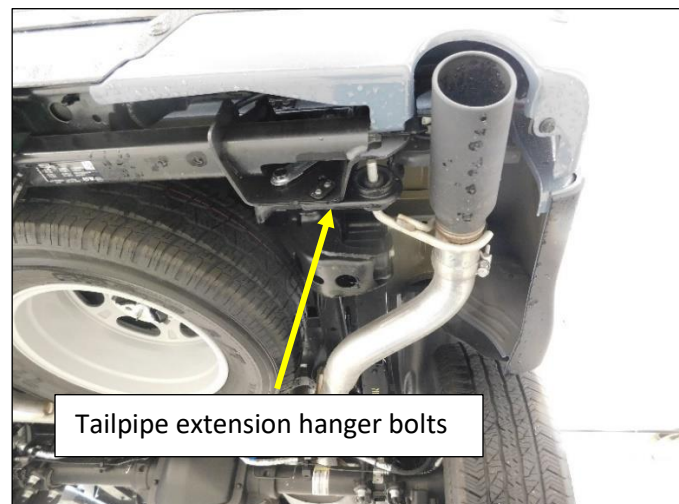

Figure 2
4. Remove the M10 nuts securing the tailpipe extension hanger to the rear frame structure (trailer hitch assembly **Fig. 2**).